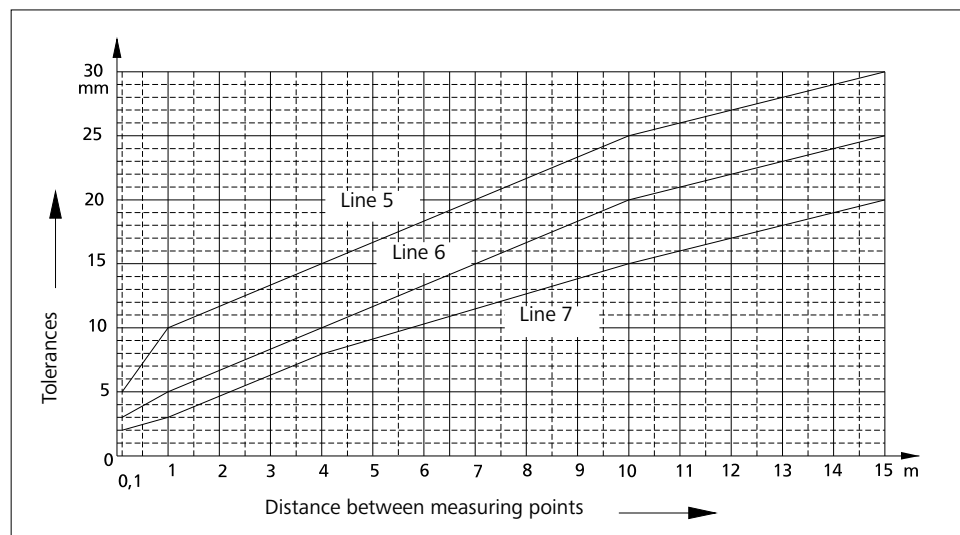

Fig. 27.2
* Intermediate values can be found in Fig. 27.2. Round up values found to full mm.